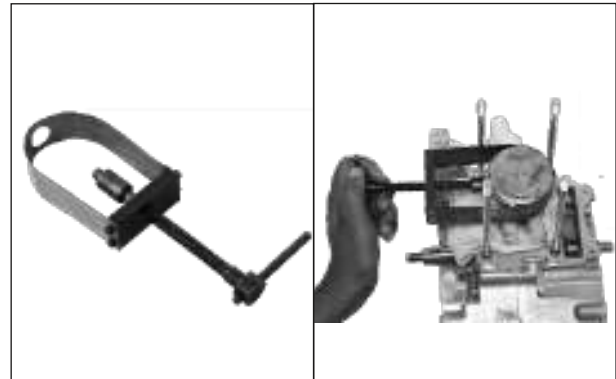

Fig. 1.20
- Assemble the tool on piston as shown in fig. and rotate the centre bolt to take out the piston pin.(Fig. 1.20)